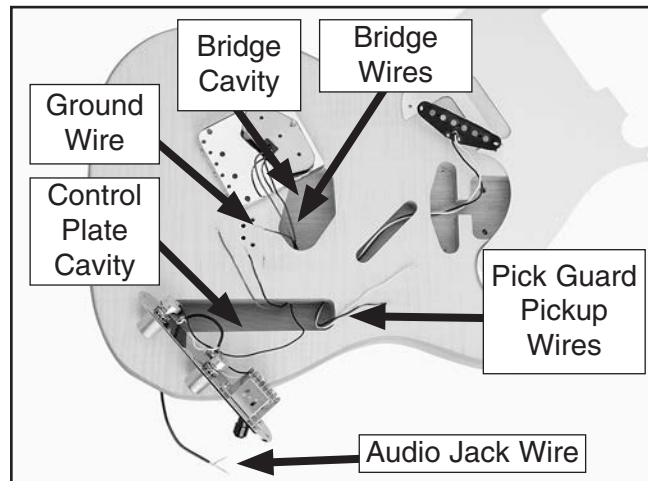

Figure 22. Wires threaded through body.
- Thread the pick guard pickup and bridge pickup wires through the channels and holes in the control plate cavity as shown in **Figure 22**. (Also, refer to the **Wiring Diagram** on **Page 29** and the **Electrical Photos** on **Pages 27-28**.)
- Thread the ground wire through the hole in the control plate cavity and into the bridge cavity (**Figure 22**).